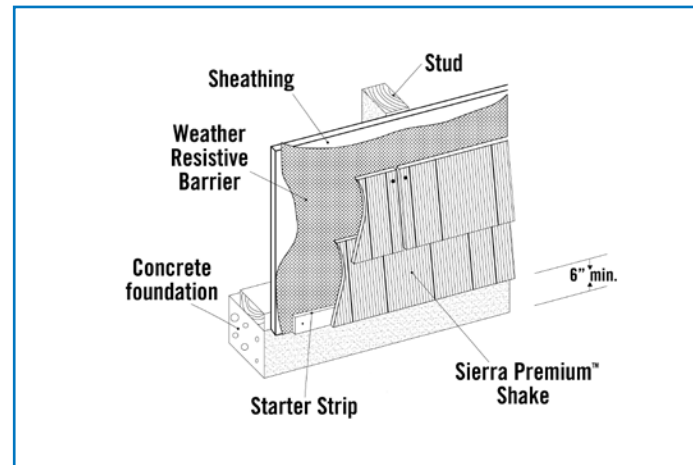

Fig. 5.1
- A starter strip is required to set the first course on the proper angle and to create the drip edge at the bottom course of siding. The starter strip material may be a cut piece of Sierra Premium, PVC, or pressure treated lumber. Do not use untreated lumber, plywood, OSB or other engineered wood products as a starter strip. (Fig. 5.1)